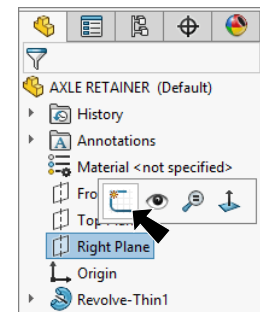

Fig. 8
Step 1. Click **Right Plane**  in the Feature Manager and click **Sketch**  on the content toolbar, **Fig. 8**.